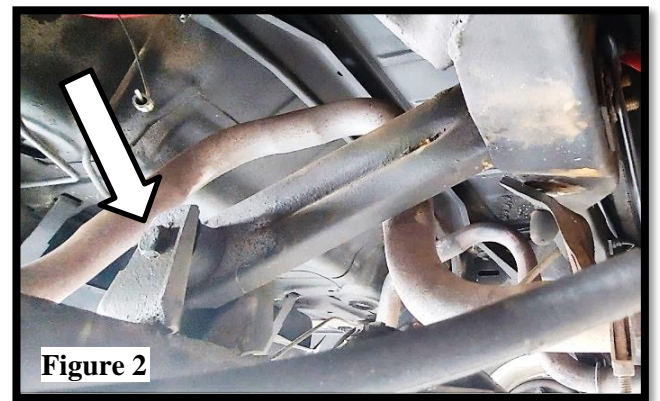

**Figure 1**
4. Remove the three front trailing arm bracket nuts from the backside of the crossmember using an 11/16" socket or wrench. **(Figure 1)** If the car has two upper trailing arms it is suggested to remove/install one at a time.